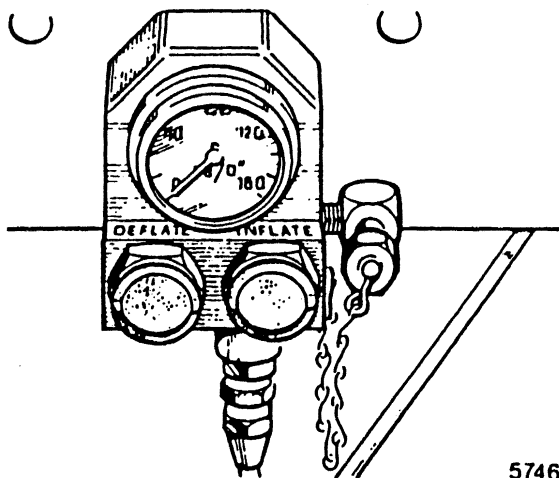

Fig 4 Tyre Inflator
47. A tyre inflator assembly (Fig 4) is attached to the outside of the left-hand frame sidemember and it includes a manually operated valve for inflation and deflation of the tyres, a pressure gauge and a connection for the hose. To use the tyre inflator proceed as follows: